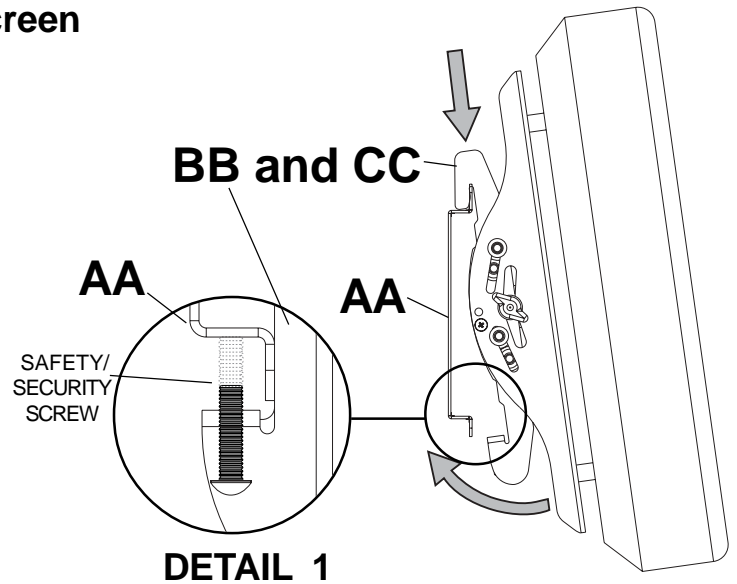

fig 3.1
- 3 Hook tilt brackets (**BB** and **CC**) onto wall plate (**AA**). Then slowly swing screen in as shown. Turn safety/security screws, using phillips screw driver or security allen wrench (**FF**), clockwise at least six times to prevent screen from being removed as shown in detail 1. of figure 3.1.